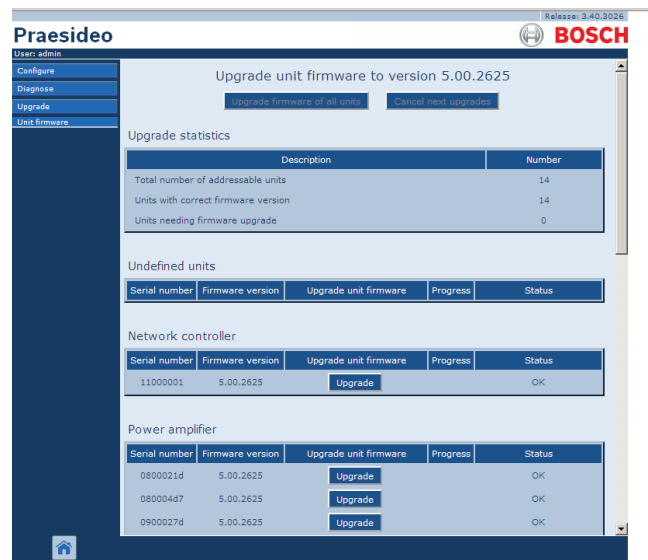

figure 36.9: Upgrade unit firmware page
- Click the *Upgrade unit firmware* button in the navigation bar to open the *Upgrade unit firmware* menu. A screen similar to the one in figure 36.9 appears. The title of the page shows the release number of the firmware that the system expects. The release number of the firmware that is currently running is shown in the Firmware version field.